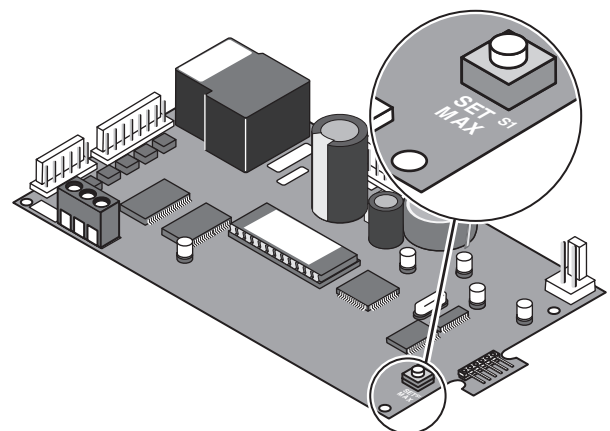

Figure 34.
3. Push the **Max. Temp. Set Point** button on the back of the control board (see Figure 34).
The relief pressure of the valve **MUST NOT EXCEED 50 PSI**. The relief valve must be installed vertically. To install the valve, use a 3/4” x 3-1/2” brass nipple at the manifold and one brass elbow and nipple (supplied), as shown in Figure 34. No valve is allowed to be placed between the manifold adapter and the relief valve.